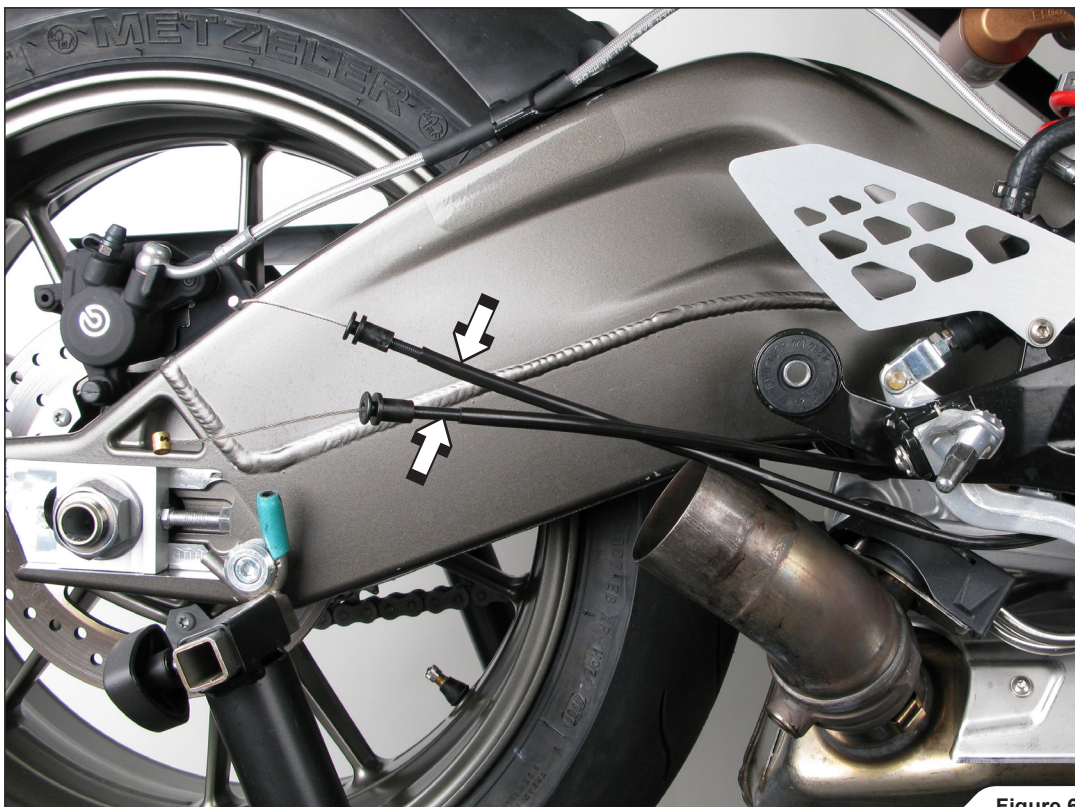

Figure 6
5. Free the cables from the motorcycle (Figure 6).